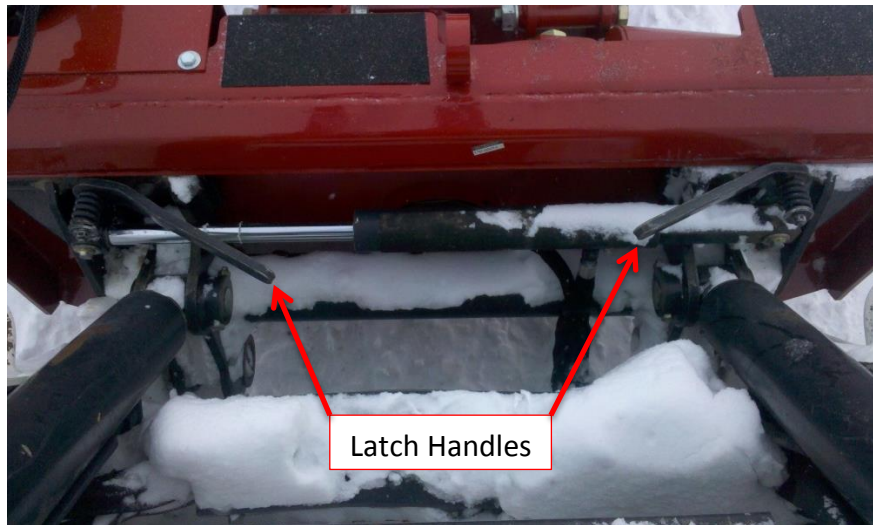

Figure 5: EZ SPOT UR attached to the skid steer with latch handles down
3. With the base fully supported by the skid steer boom, lower it to ground level. Slightly tilt the front of the base upward about 2" from ground level. Turn off the engine, set the parking brake, and exit the skid steer. Push both latch handles downward to engage the hitch pins into the base retaining tabs. Figure 4 shows the hitch pins in the retaining tabs. Now the base hitch is securely attached to the mounting plate of the skid steer as shown in Figure 5.
3. Pull the latch handles all the way up. The latch handles are shown in Figure 5.